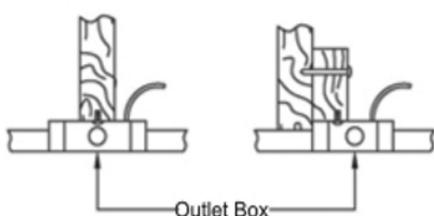

Fig.1
3. Figure 1,2 and 3 are examples of different ways to mount the outlet box in different ways to mount the outlet box in different situations. A longer down rod may be required in sloped ceiling situations to maintain proper blade clearance.